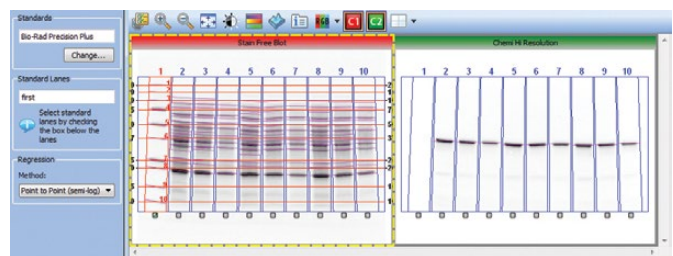

Fig. 8. Selecting the molecular weight lane in the stain-free blot image.
- Return to the Analysis Tool Box and select **MW Protein Standard**. In the stain-free blot image check the box below all MW standard lanes (Figure 8)